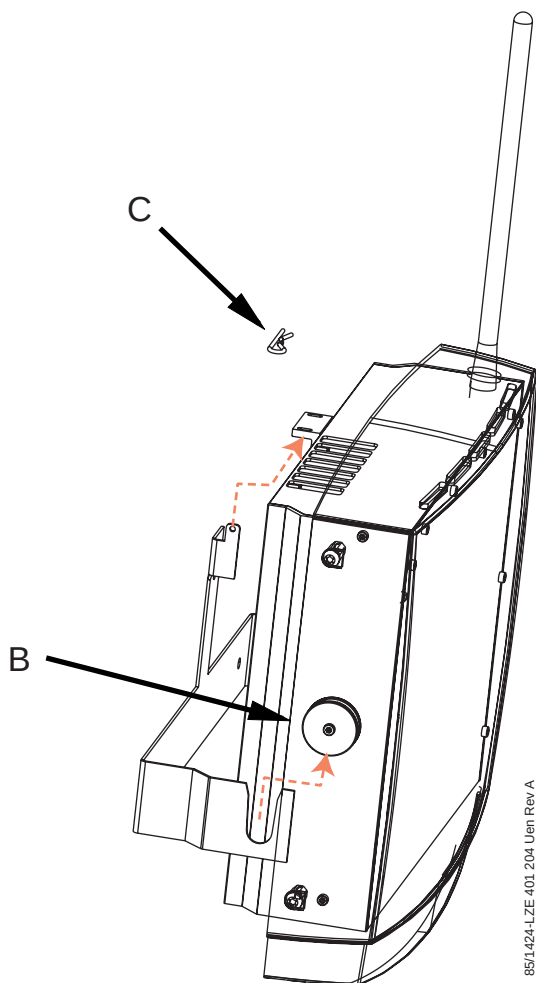

Figure 6 Mounting instruction.
5. Lift the BRU1 (see *Figure 6*). Put the two hook-up plastic wheels (B) into the openings in the base plate and let the BRU1 slide down into position.